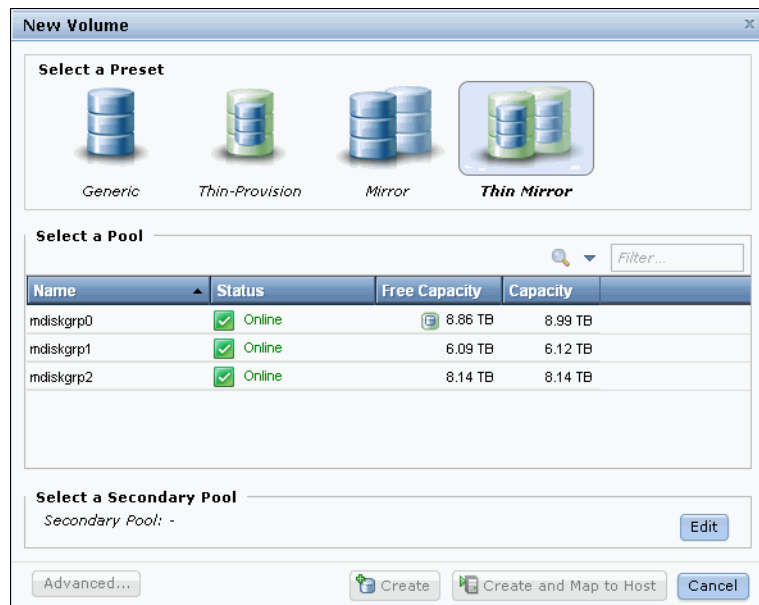

Figure 5-16 Thin Mirror
1. Select **Thin Mirror**, as shown in Figure 5-16.